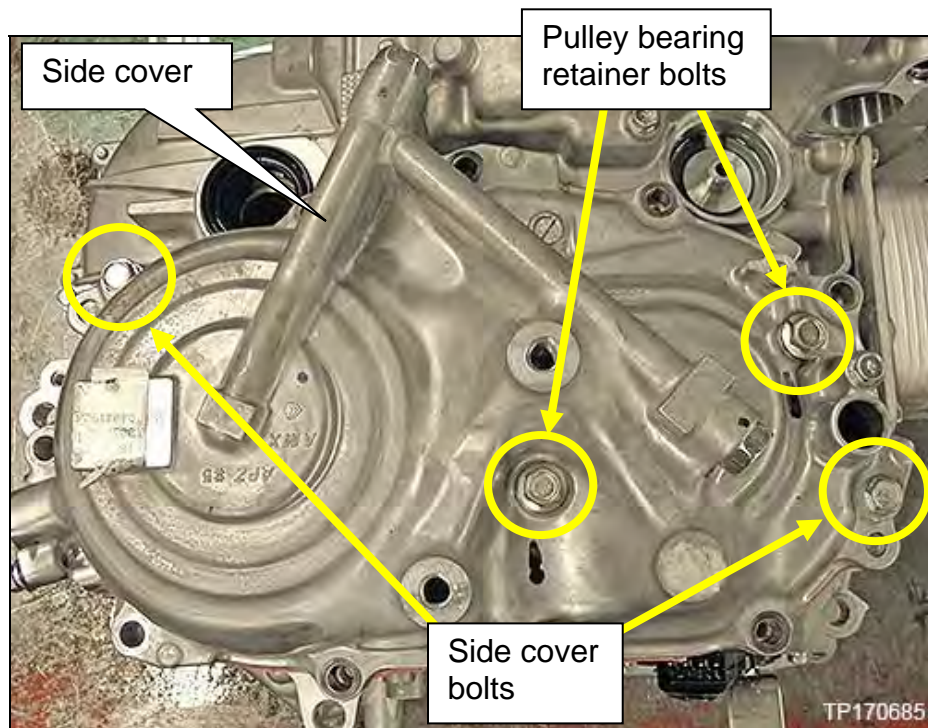

Figure 8J
8. Install the two (2) original pulley bearing retainer bolts (Figure 8J) as follows:
9. Temporarily reattach the removed side cover onto the CVT case with two (2) original bolts on opposite corners, hand tight.